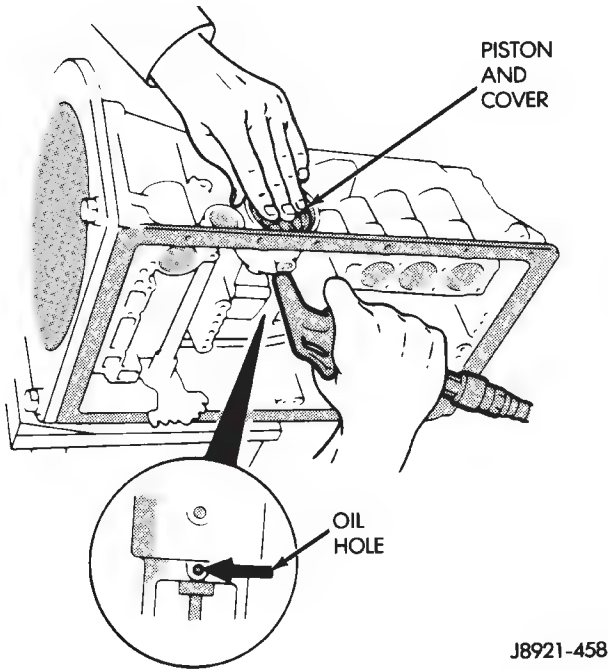

Fig. 31 Removing Servo Cover And Piston
(3) Remove servo piston and cover with compressed air. Apply compressed air through oil hole in servo boss to ease piston out of bore (Fig. 31).